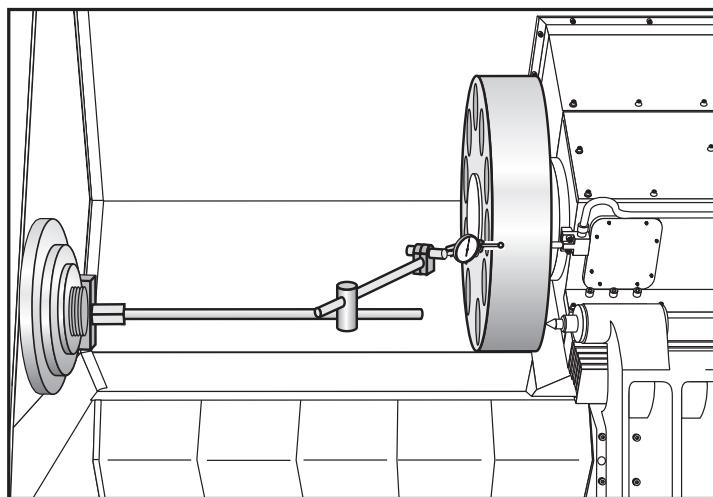

Fig. 1.4-1 Dial indicator in position to check X-axis.
1. Place a dial indicator and base on the spindle retaining ring with the tip of the indicator positioned on the outside diameter of the turret, as shown in Fig. 1.4-1